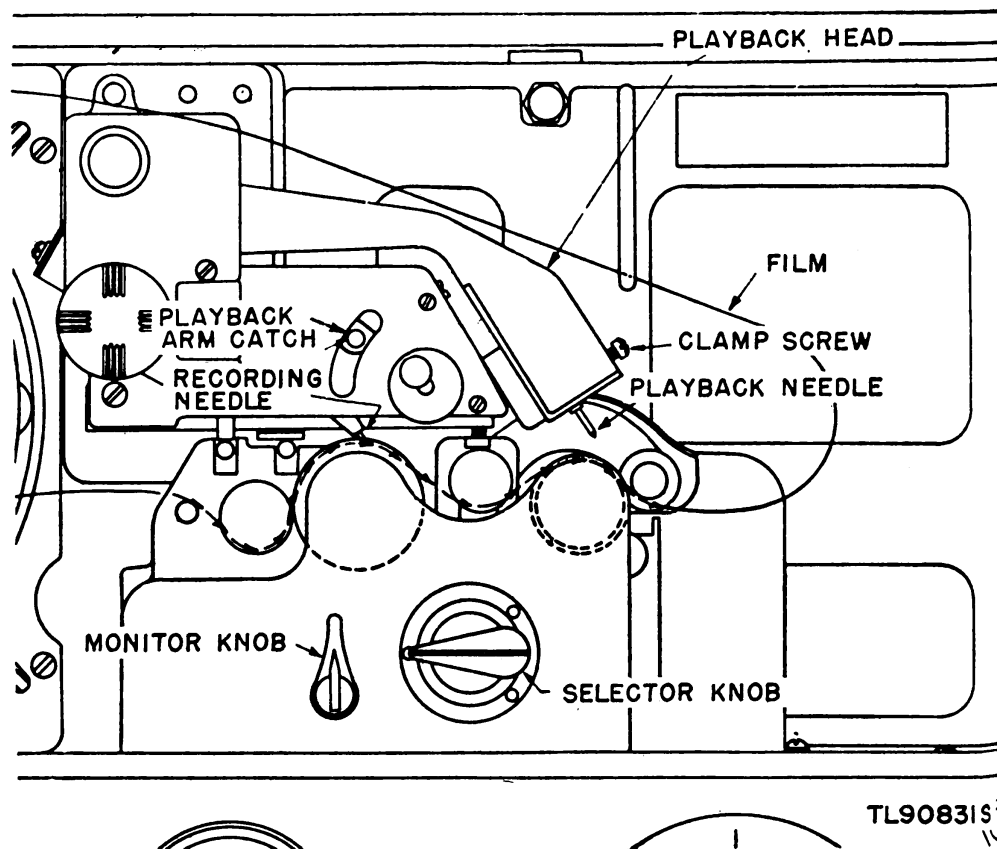
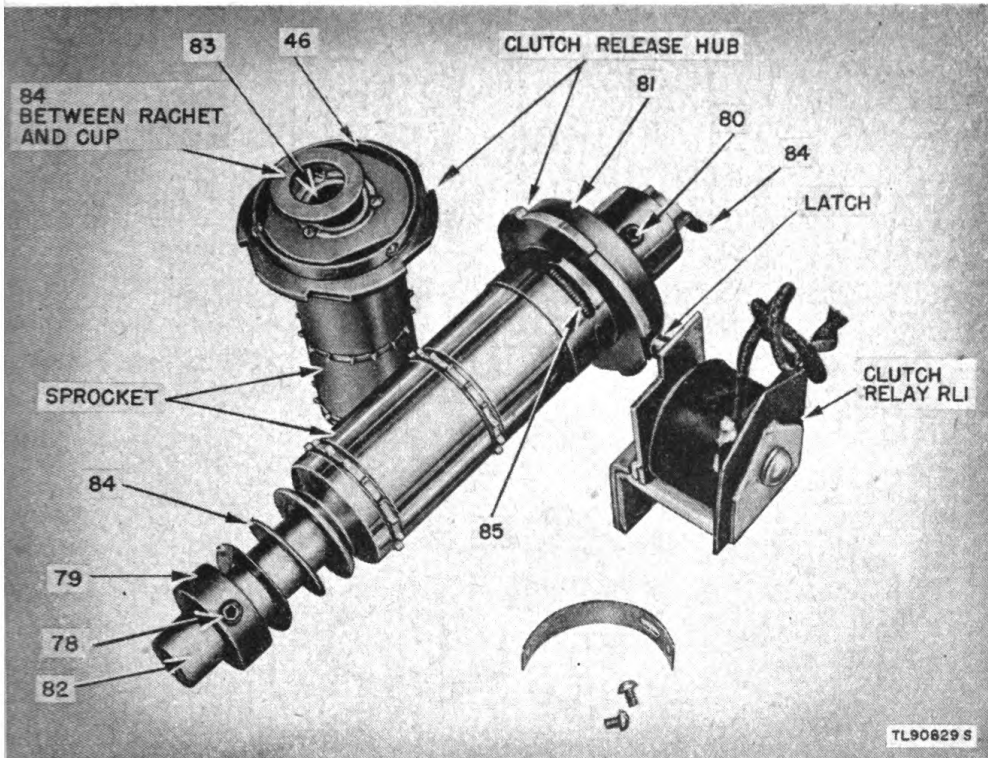

Figure 36. Front view of carriage assembly.
Figure 37. Sprocket and clutch assembly, Sound Recording Set AN/UNQ-1.
a. REMOVAL (fig. 36). (1) Turn selector knob to NEUTRAL. See that MONITOR knob is pointing up.
(2) Loosen the clamp screw sufficiently to release the playback needle.
(3) Remove the needle (needle wrench may be used to facilitate handling). Avoid damaging the needle point.
b. INSERTION (fig. 36). (1) Turn selector knob to NEUTRAL. See that the MONITOR knob is pointing up.
(2) Turn the clamp screw sufficiently to permit insertion of needle into hole at the bottom of the playback head.
(3) Insert needle up as far as it will go (needle wrench may be used to facilitate handling). Hold in that position and tighten the clamp screw firmly. Do not force.
## 85. Removal and Insertion of Recording Needle (fig. 36)
*a.* DISASSEMBLY (fig. 37). The following disassembly procedures apply to Sound Recording Let AN/UNQ-1 only unless otherwise noted.
(1) Remove the recording bracket front cover (fig. 11), clutch relay, sprocket brush assembly (fig. 36), idler roll (8), and idler roll arm adjusting bar (77).
(2) Slide the idler roll off its supporting shaft; do not remove the shaft or the arm to which it is fastened.
(3) Loosen the setscrew (78, fig. 37) in the retaining collar (79) at the outer end of the sprocket.
(4) Loosen the setscrew (80) in the clutch cup (81) which positions the shaft (82) against the main frame. These two setscrews engage with flats on the shaft which are about  $\frac{1}{32}$  inch
(5) Withdraw the flywheel and the shaft out of the bearings (83) in the sprocket and from the clutch cup. Be careful to hold the sprocket assembly and cup together until they are out of the set; otherwise, the three small balls (46, fig. 37) inside the clutch may be lost.
b. ASSEMBLY. (1) Follow the above procedure in reverse order.